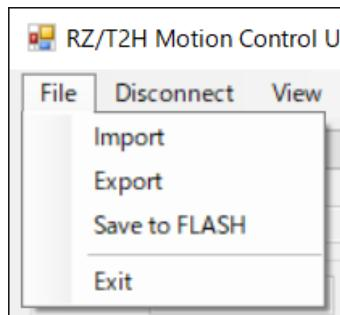

Figure 4-3 "File" Menu
(9) Select "Import" from the "File" menu (Figure 4-3) to import the unzipped Motor Parameter (./default.mtr).
(10) Select "Save to FLASH" from the "File" menu (Figure 4-3) to save the imported Motor Parameter to the serial flash memory.
- (20) Select "Exit" from the "File" menu (Figure 4-3) or press the "Close" button to close the RZ/T2H Motion Control Utility.